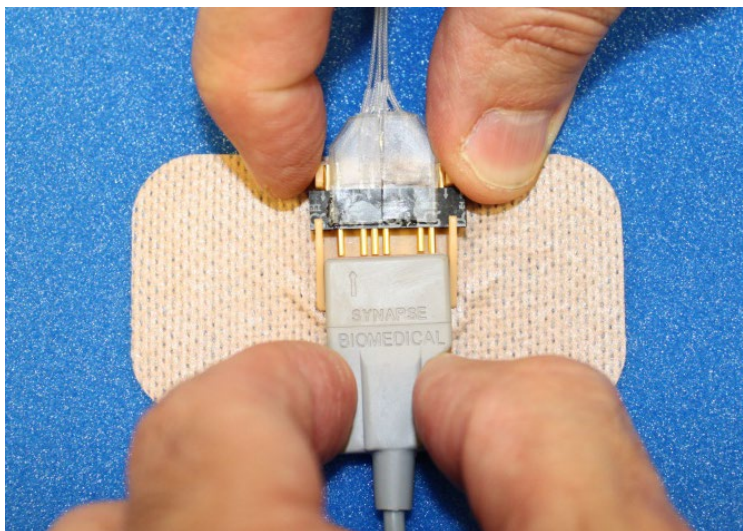

Figure 27.
1. Disconnect the patient cable from the electrode connector (Figure 27).